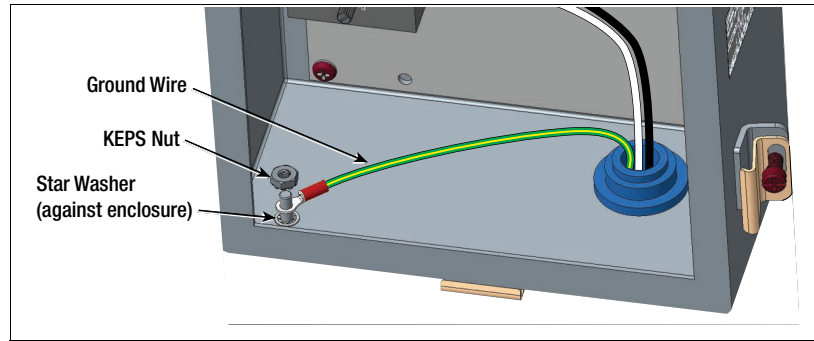

Figure 5. Overfill Alarm Ground Wire Termination
- Figure 5. Overfill Alarm Ground Wire Termination 8
If using a ground wire within the conduit, terminate the ground wire on the grounding stud located in the bottom of the enclosure. Ensure that a star washer is between the enclosure and the lug attached to the ground wire and that the lug is secured in place by the included KEPS nut (see Figure 5).